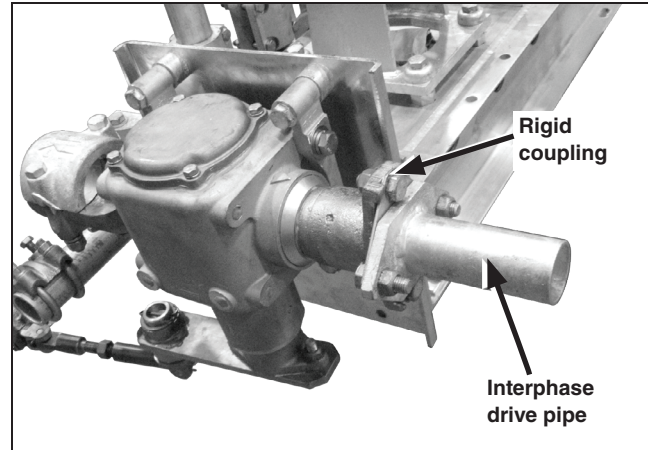

Figure 8. Rigid coupling and interphase drive pipe.
**STEP 2.** Install the interphase drive pipe into its rigid coupling. See Figure 8. The interphase drive pipe will attach to the side of the gearbox closest to where the outboard bearing assembly is mounted.